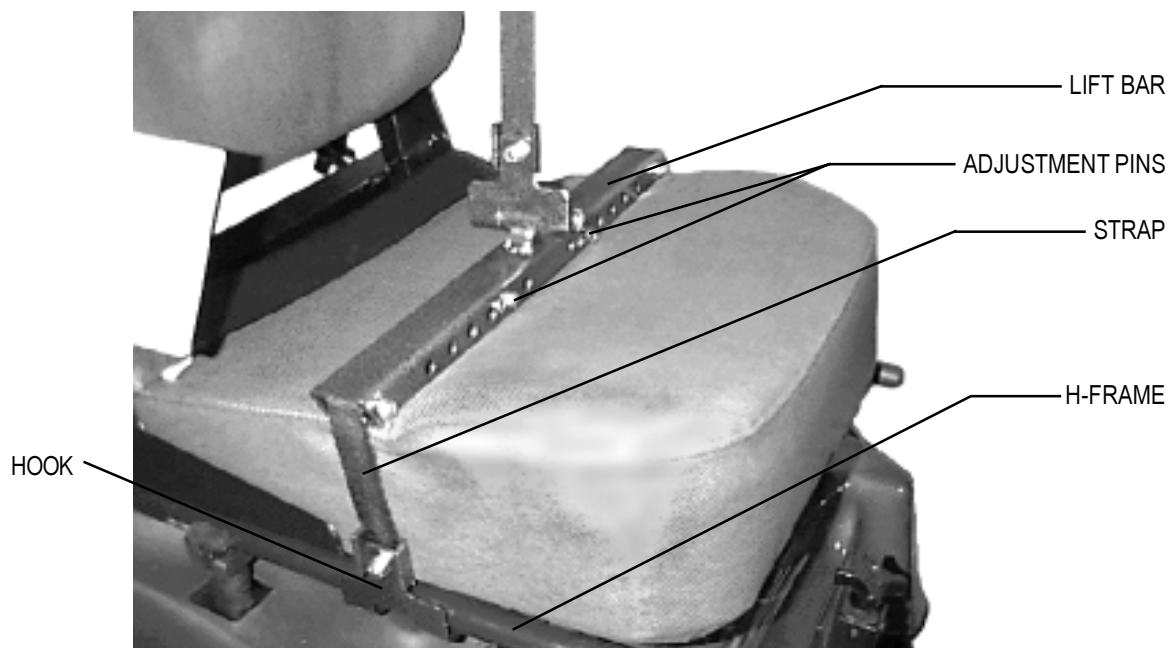

FIGURE 22
1. Place the lift bar across the top of the seat with the straps hanging over the sides. See figure 22.